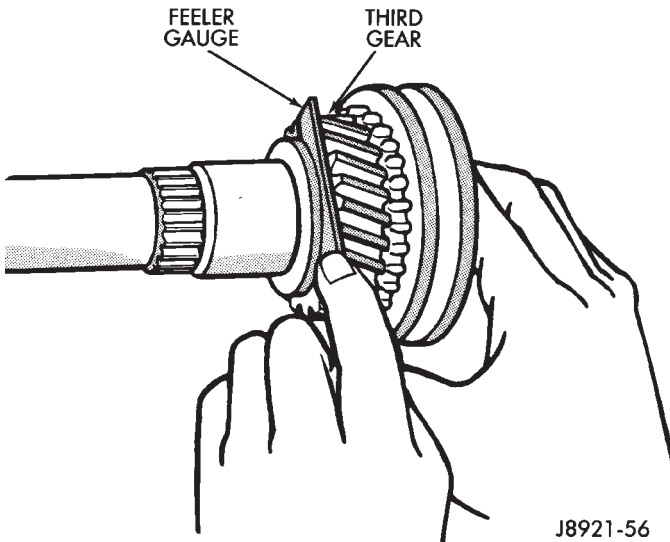

Fig. 110 Check Third Gear Clearance
(9) Install snap-ring to hold 3-4 synchronizer onto output shaft.
(10) Verify third gear thrust clearance with feeler gauge (Fig. 110). Clearance should be 0.10 - 0.25 mm (0.004 - 0.010 in.). If clearance is out of specification, refer to Cleaning and Inspection section within this group.